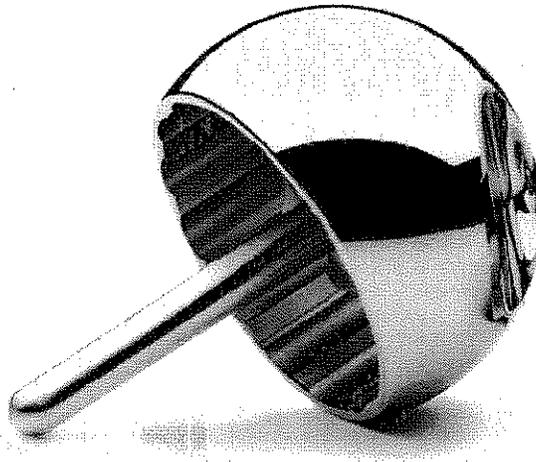

Figure 1: Sample Photo – *Durom*® Femoral Component
**Product:** The Zimmer *Durom*® Femoral Component (Fig.1) is a cemented device used in femoral head resurfacing. The design allows maximum femoral bone stock preservation in hemiarthroplasty applications as well as in combination with a metal acetabular bearing surface utilizing *Metasul*® technology.